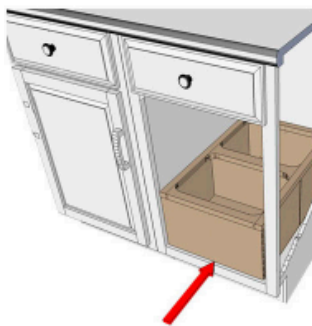
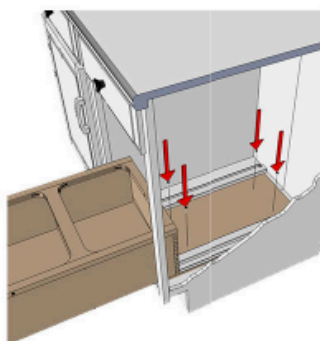

Fig.1
Fig.2
- STEP 2- Place unit inside the cabinet. Make sure face of unit is flush with the outside of the cabinet frame. Center unit left and right (see Fig.1). Secure unit to cabinet with four wood screws (*Not Included*) through the base of the unit into the floor of the cabinet. Be sure to drive screws near the four corners, but allow enough room back to clear the cabinet's kick space (see Fig.2). (*IMPORTANT: Do not allow the Pull Out Unit to protrude past the cabinet's face frame or Door will not close properly.*)